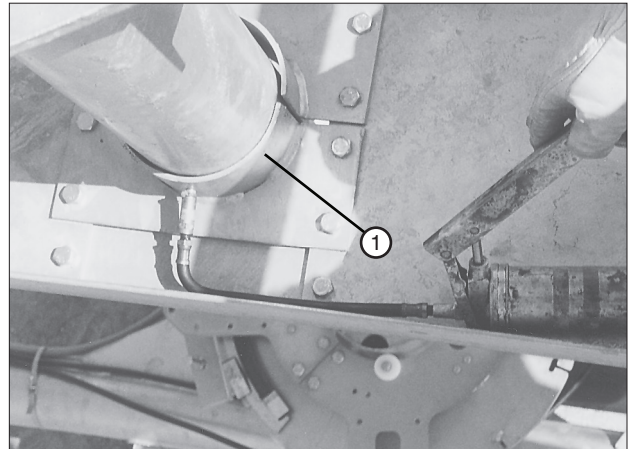

Figure 73-2 1. Upper Bearing
2. Lubricate two (2) grease fittings on the upper bearing. See figure 73-2.